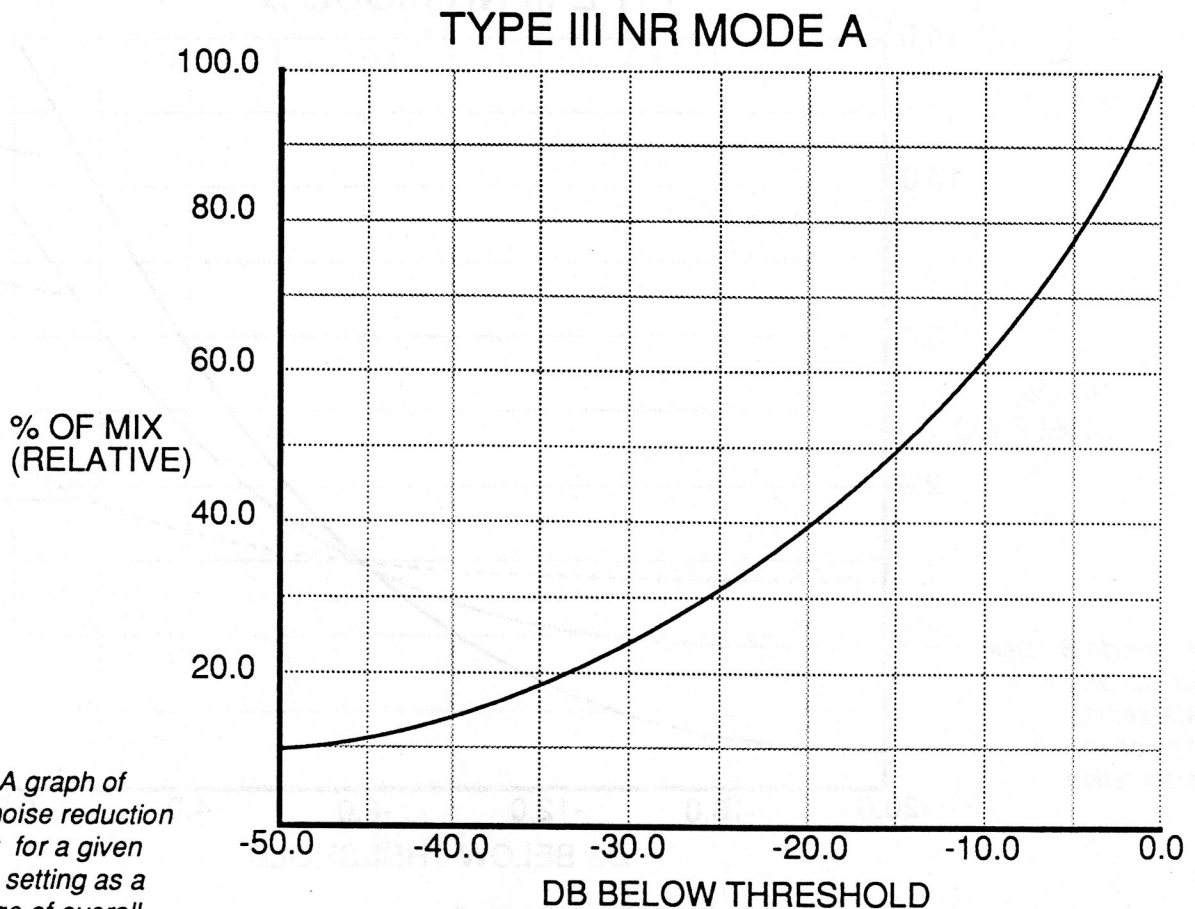

Fig. 4-3. A graph of Mode A noise reduction capability for a given threshold setting as a percentage of overall mix signal.
As a demonstration, Fig. 4-3 shows the effect NR MODE A has on reducing noise as a percentage of the MIX signal at different levels below a given THRESHOLD setting. The expansion ratio of 2.5-to-1 permits the sidechain MIX to follow the signal level below a threshold setting. When the higher frequencies of the input drop below threshold, the MIX will drop at a proportional 2.5 to-1 ratio. In this way, the original signal-to-noise is not affected, even with a great deal of enhancement. This mode is most useful when you enhance complex program material such as composite mixes.
For NR MODE A, an optimum noise reduction setting is achieved when the yellow (-10) LED and green (0) LED flashes alternately with each audio program peak and pause. At this point, the noise reduction circuits provide the greatest downward expansion of the "Ax Sidechain" signal, as the program signal drops below the NR THRESHOLD setting (refer to Fig. 4-3).